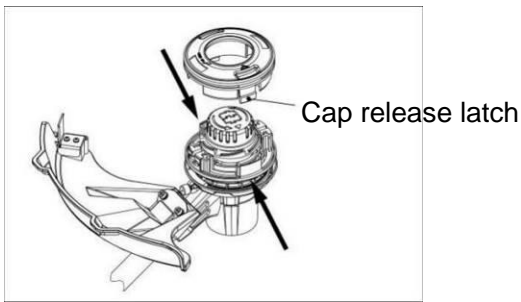

Fig. 21
2. Press the cap release latch on the cap and lift it out of the spool holder (Fig. 21).